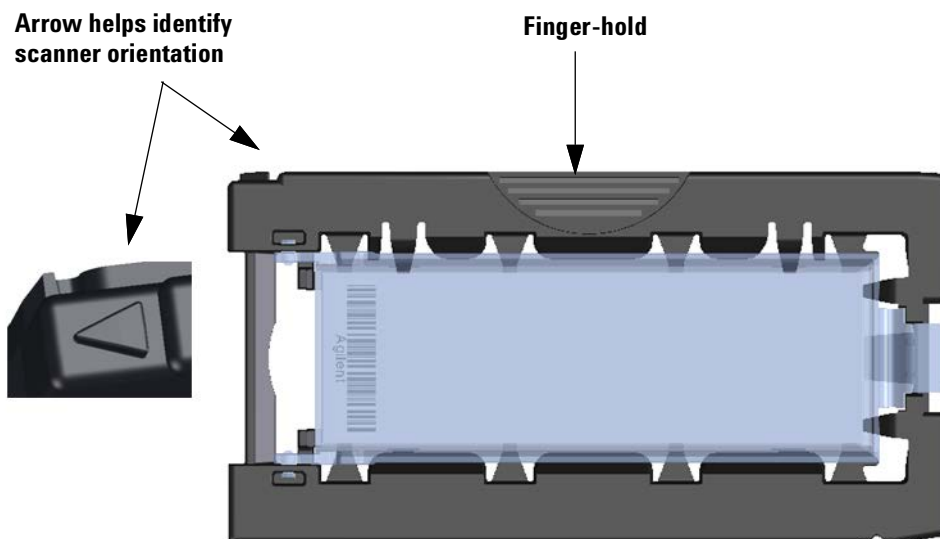

Figure 11 Slide holder helps you to insert slides correctly
- 2 Pick up the slide holder using the finger-hold. The arrow on top of the slide holder points to the left when you pick up the slide holder correctly. See Figure 11.